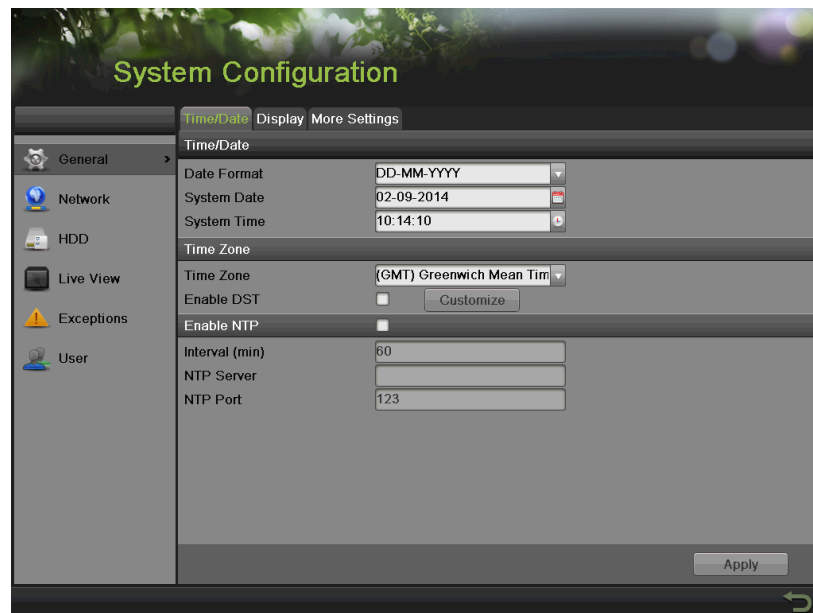

Figure 43 System Configuration Menu
2. Select the Time/Date tab, as shown in Figure 43.